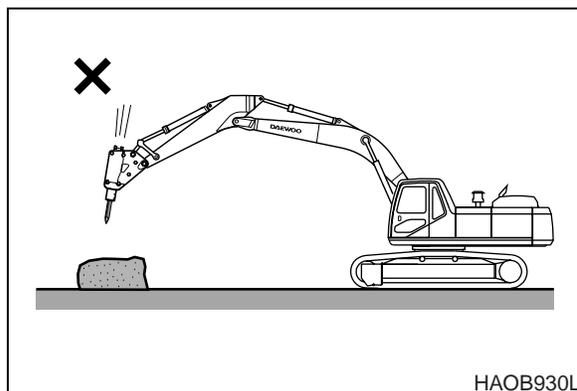

Figure 71
3. DO NOT use the breaker as a hammer. See Figure 71.